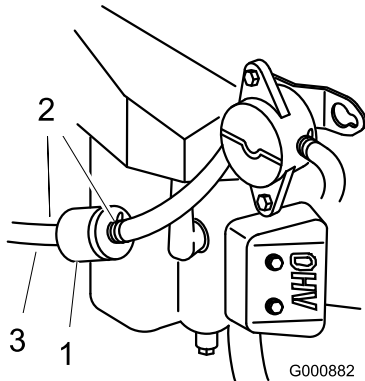

Figure 36
5. Loosen the hose clamp at the fuel filter and slide it up the fuel line away from the fuel filter (Figure 36).
6. Pull the fuel line off of the fuel filter (Figure 36).
4. Squeeze the ends of the hose clamps together and slide them away from the filter (Figure 36).
6. Install a new filter and move the hose clamps close to the filter (Figure 36).